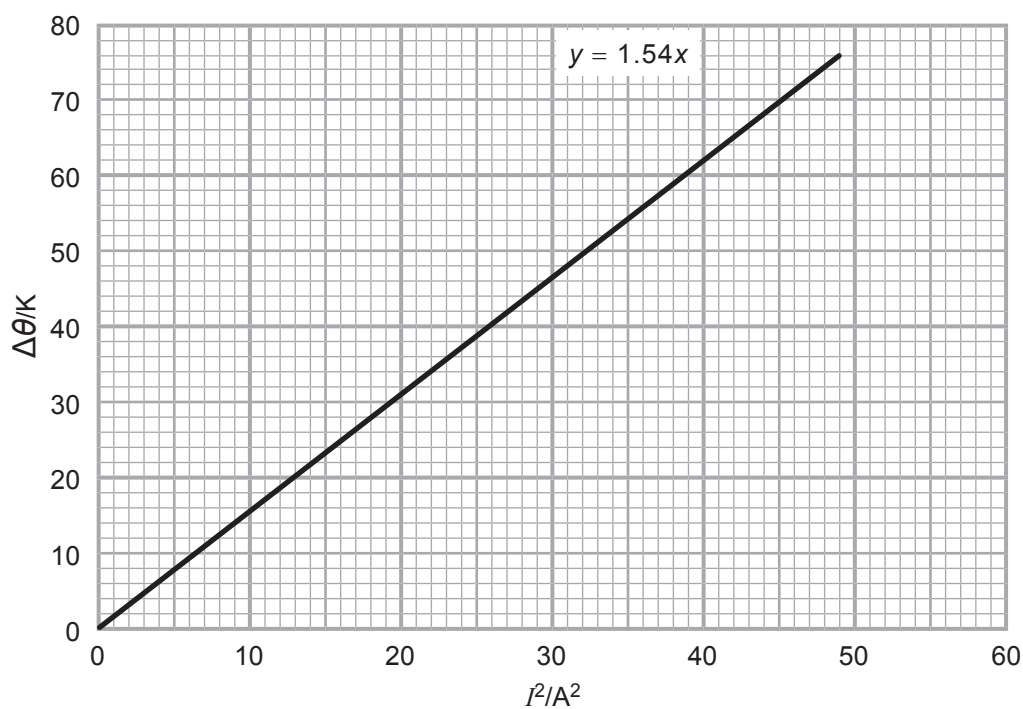

Fig. 3.1
Fig. 3.1 is a graph of the experimental results for the temperature change, $\Delta\theta$, in a sample of water against the square of the current, I^2 , through a constantan heating coil of wire immersed in the water. The software package used to draw the graph has included the equation for the trend line.
- (a) (i) Does the graph in **Fig. 3.1** verify the Joule Law of Heating?
- (b) In the space below, draw a fully labelled diagram of an experimental arrangement that would facilitate the taking of results that would allow a graph similar to that shown in **Fig. 3.1** to be drawn. Remember to include any measuring instruments required.